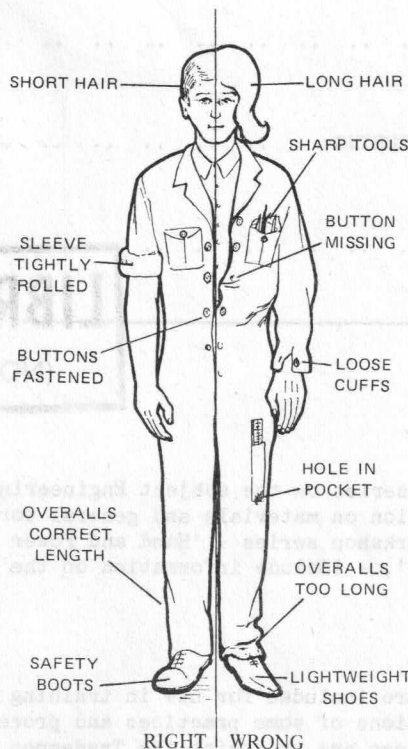

FIG. 1. SAFE AND UNSAFE DRESS.
2.2 SUITABLE CLOTHING. Fig. 1. illustrates good and bad points concerning dress.